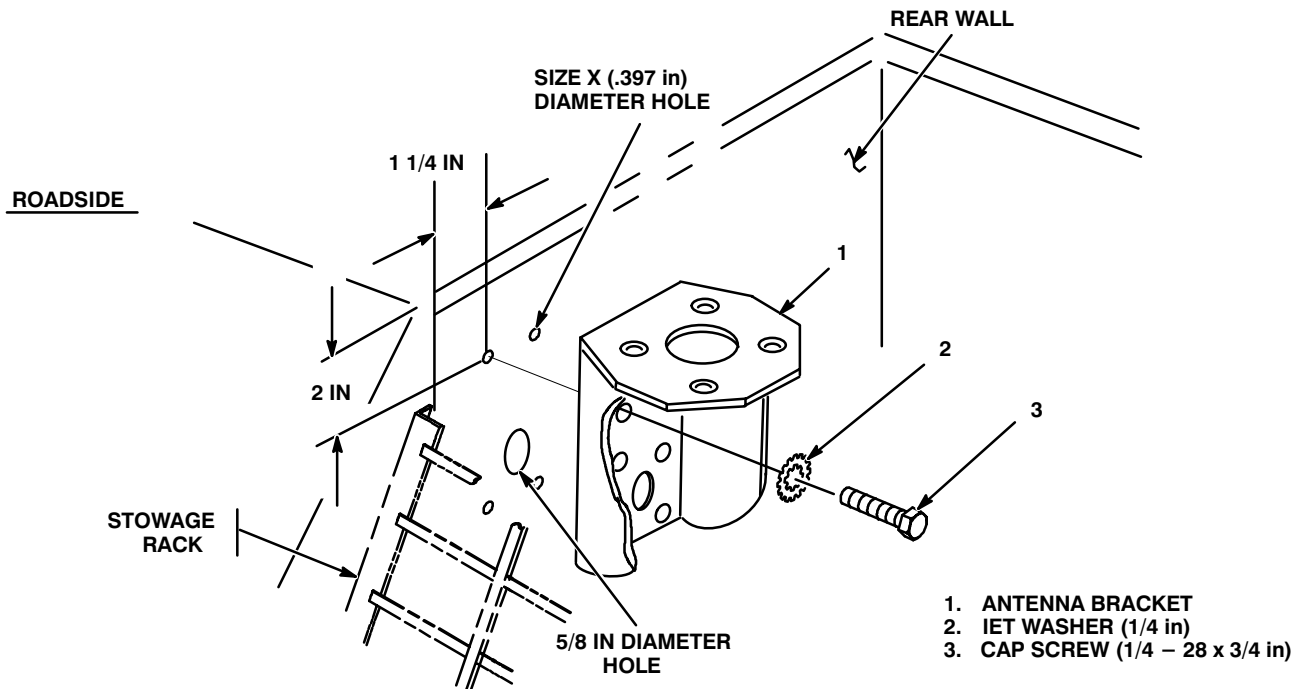

Figure 5-3 (1). Antenna Base Installation: Installing Antenna Bracket
| e. Antenna bracket (1). | Place against rear wall and align mounting holes. See figure 5-3 (1). | |